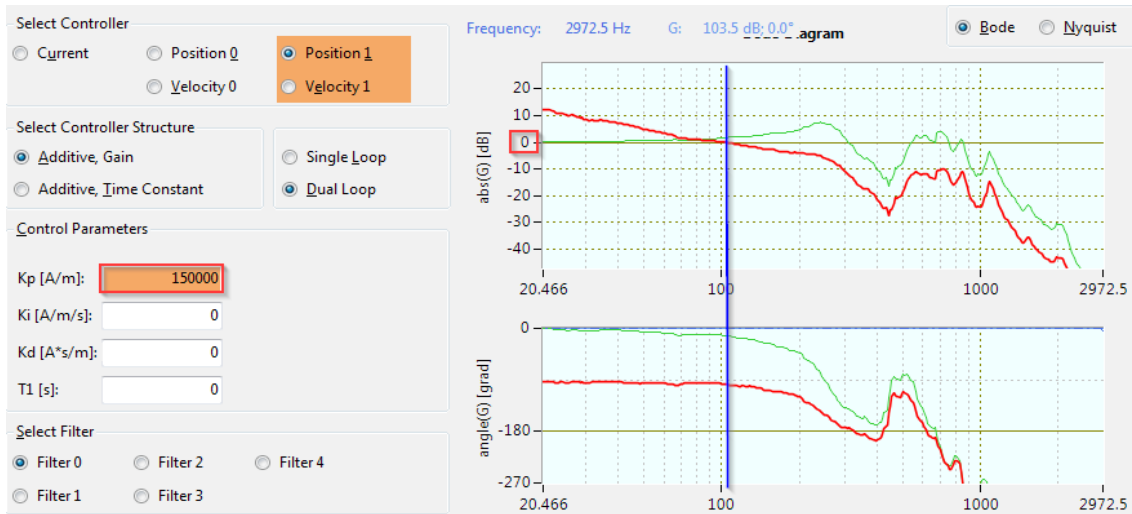

Figure 9: Gain crossover frequency with tuned K_p .
- In the example displayed in Figure 8 f_{gc} is chosen at 105Hz where the open loop gain G_{gc} is -103.5dB (with $K_p = 1$). With G_{gc} the controller gain can be calculated with equation (8) which yields $K_p = 150000$. With this K_p , the open loop gain in the bode display should now cross 0dB at f_{gc} (Figure 9).